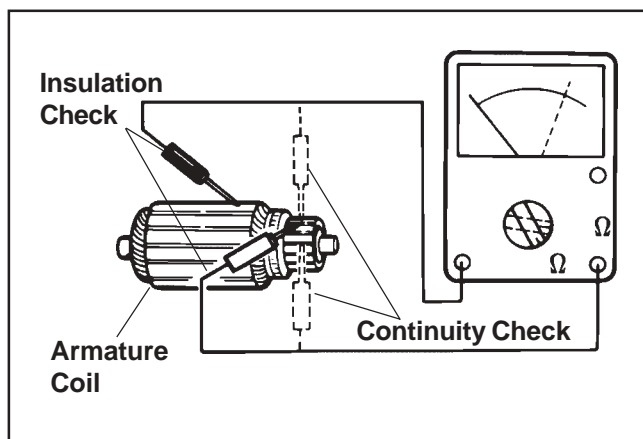

Figure 8-29. Checking Armature.
- Use an ohmmeter set to the Rx1 scale. Touch the probes between two different segments of the commutator, and check for continuity. See Figure 8-29. Test all the segments. Continuity must exist between all or the armature is bad.
- Check for continuity between the armature coil segments and the commutator segments. See Figure 8-29. There should be no continuity. If continuity exists between any two, the armature is bad.